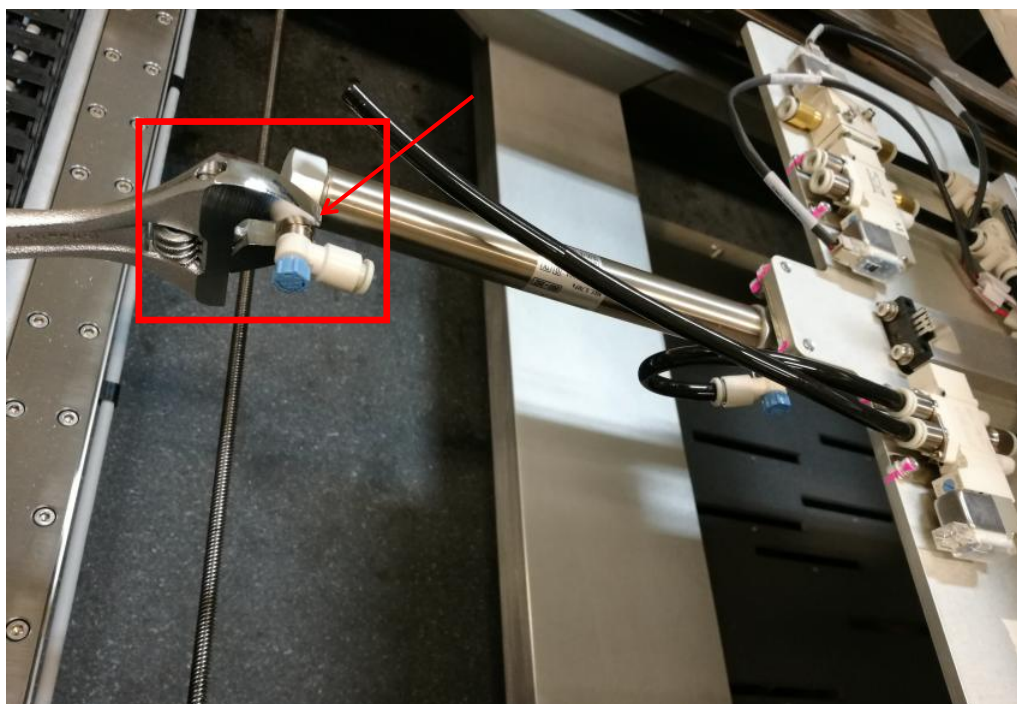

Figure 2 Speed control fitting removal
4. Remove Speed Controller Fitting by Adjustable Wrench as shown in Figure 2